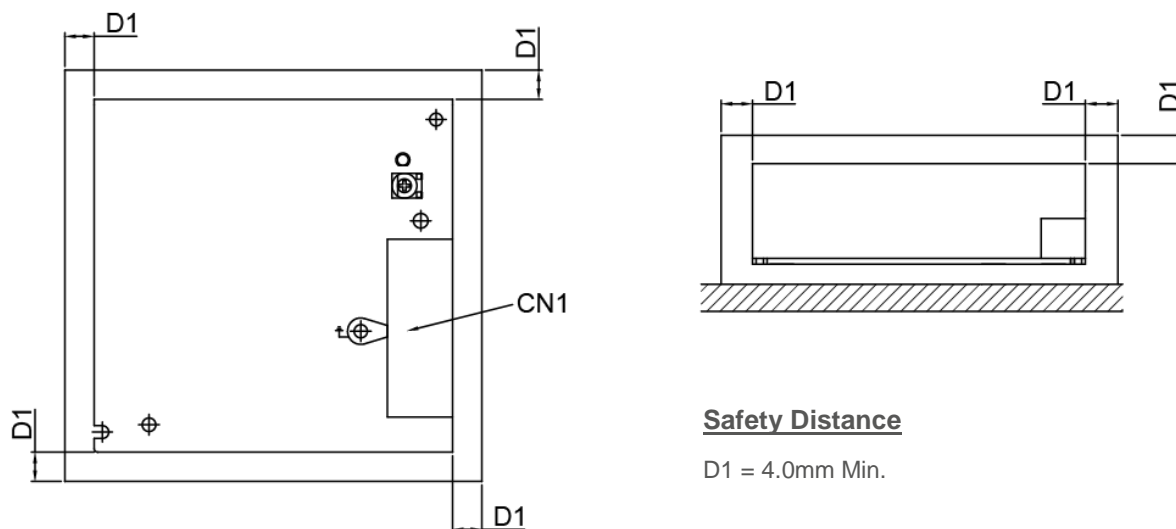

Fig. 3 Assembly Reference
- **PM□-5V50W1A□ / PM□-5V50W1AG:** Use flexible cable (stranded or solid) of AWG No. 14-12. User should calculate and select the suitable wire specification (type/quantity/diameter) according to actual output current. The torque at the Connector shall not exceed 13Kgf.cm. The insulation stripping length should not exceed 0.275" or 7mm (Refer to Fig. 3).